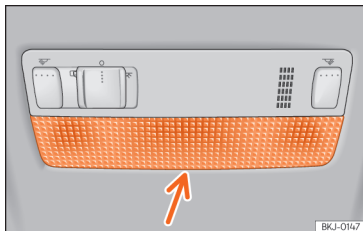

Fig. 64 Front reading light.
- Insert a fine screwdriver between the casing and the glass »» **Fig. 64**.